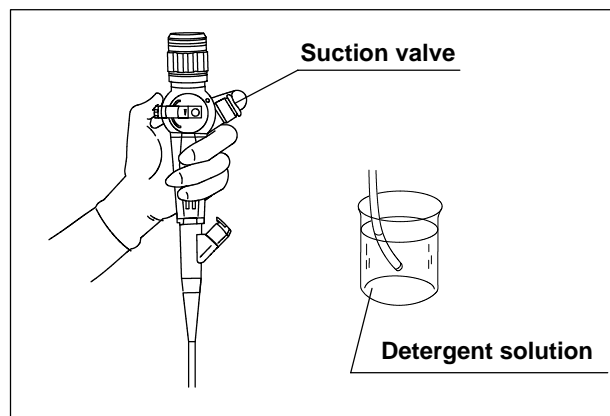

Figure 7.6
2. Immerse the distal end of the insertion tube in detergent solution. Depress the suction valve and aspirate detergent solution into the instrument channel for 30 seconds (see Figure 7.6).